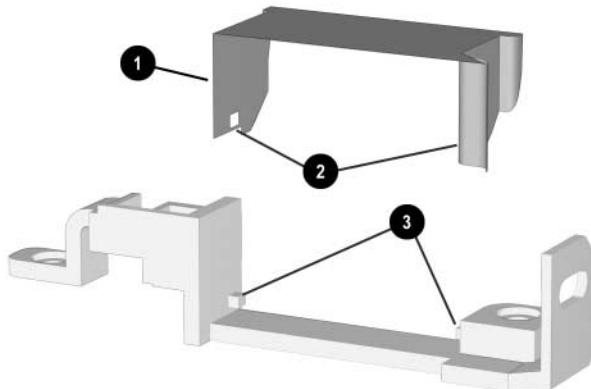

Figure 5-33. Replacing the Fan Channel on the Right Display Support
A plastic fan channel ① attaches to the right display support. The channel has two slots ② on either end that fit around two tabs ③ on the display support. The fan channel is included in the Miscellaneous Plastics/Hardware Kit, spare part numbers 285261-001 and 286868-001 (Figure 5-33).